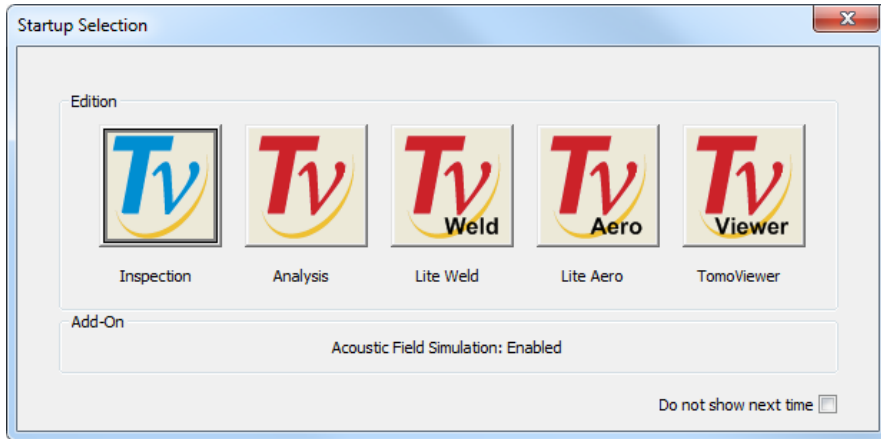

Figure 1-22 The Startup Selection dialog box
5. In the **Startup Selection** dialog box that appears (see Figure 1-22 on page 42), click the button associated with the desired TomoView edition.